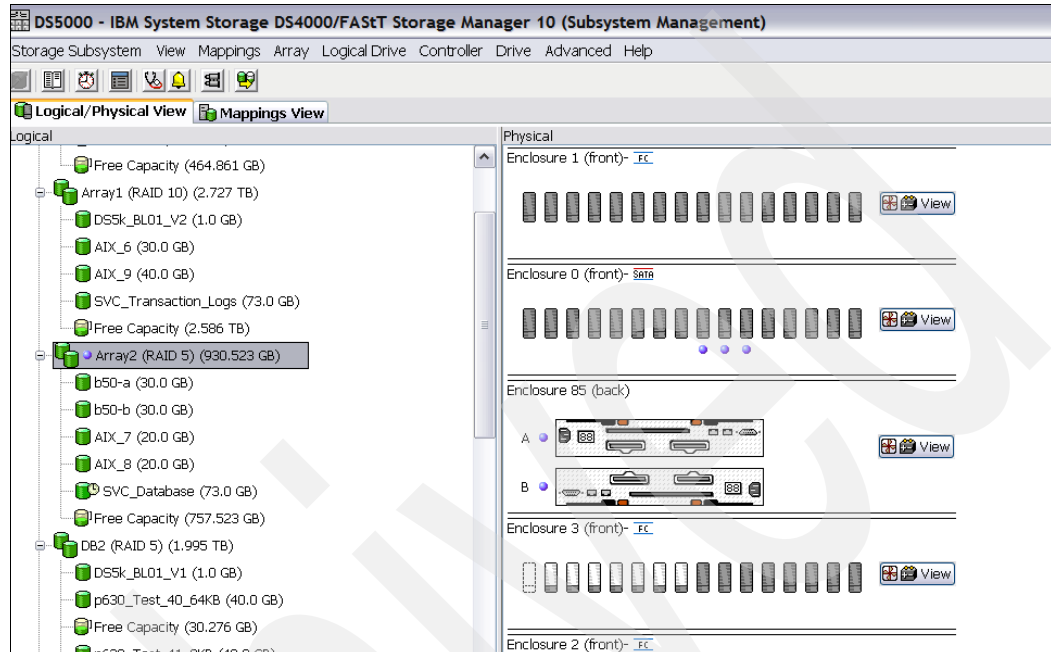

Figure 11-20 Storage Manager with LUNs created
- It has been created with RAID 5 and is 73 GB in size (Figure 11-20).
- The read ahead multiplier is set to enabled (1).